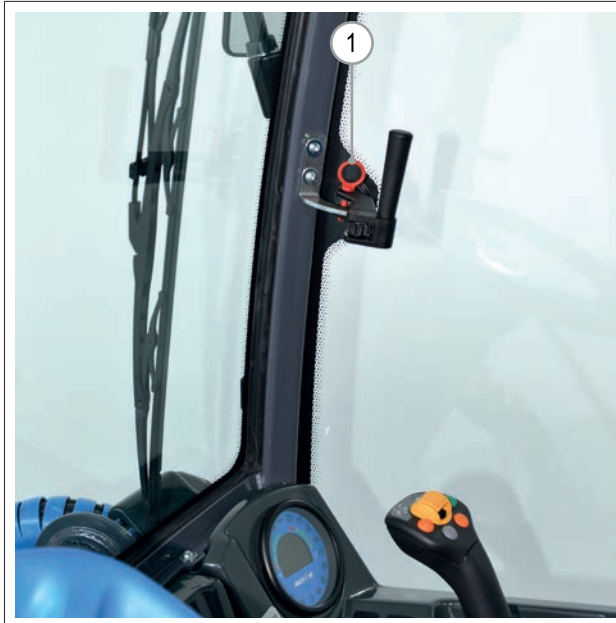

FIG. 32
- 1) Pull the red ring on the handle to open of the **Right** window of the machine (**FIG. 32 - Ref. 1**).